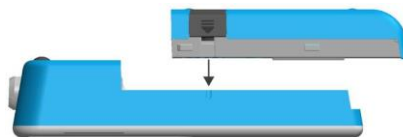

Figure 6: Line up and insert battery at guide markers.
- Line up guide markers on the sides of both the battery and AURA™ Monitor (Figure 6).